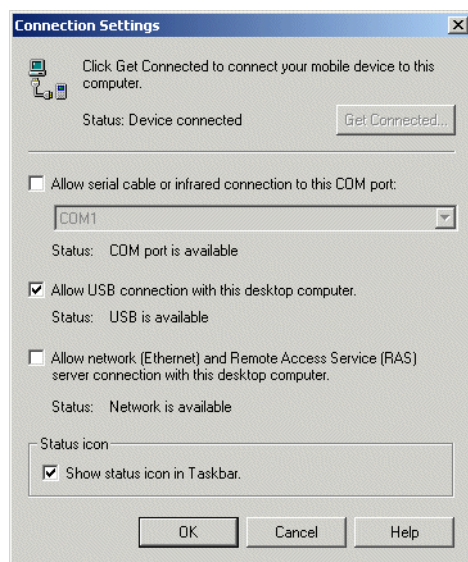

Figure 2-18 USB Connection Settings
12. In the ActiveSync window, select *File > Connection Settings* and ensure the selections shown in Figure 2-18 are made.